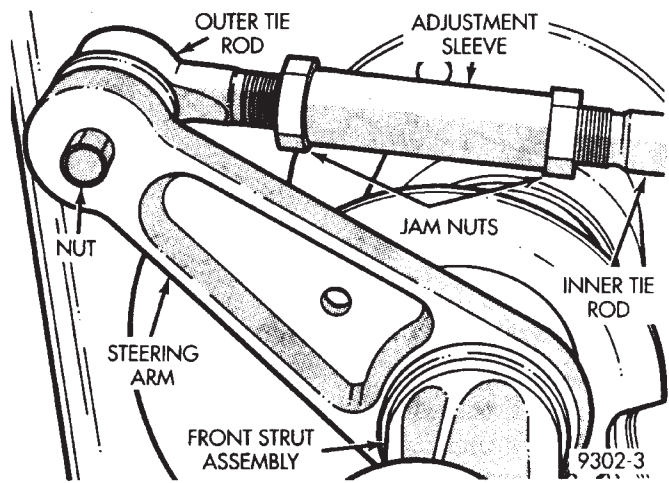

Fig. 2 Front Wheel Toe Adjustment
- (1) Prepare vehicle as described in the Pre-Alignment procedure.
- (2) Center steering wheel and hold with steering wheel clamp.
- (3) Loosen tie rod adjustment sleeve jamnuts. Rotate adjustment sleeve to align toe to specifications (Fig. 2).